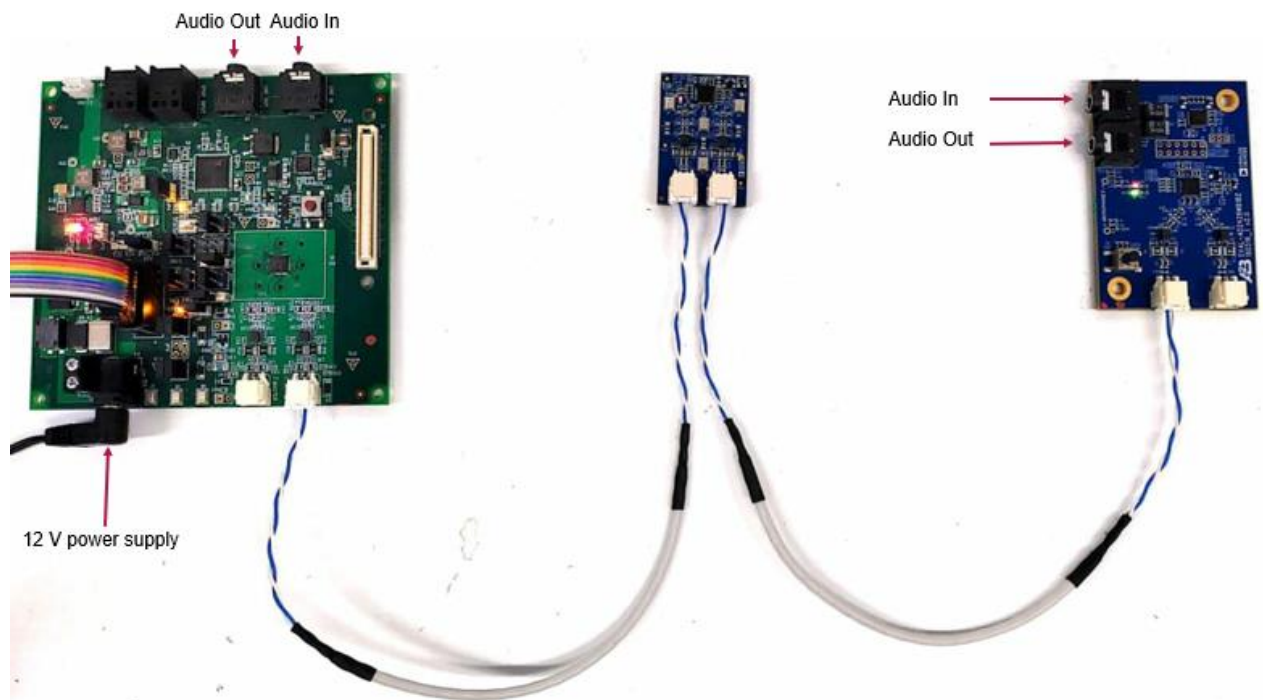

Figure 7: A2B Eval board connections
1. EVAL-AD2428WD1BZ (Master) <-->EVAL-AD2428WC1BZ (Slave0) <--> EVAL-AD2428WB1BZ (Slave1) as shown in Figure 7.
- Attach an USBi cable to the master board connector P1 as shown in Figure 7. Other end of the cable should be connected to the PC.
- Connect separate audio sources (e.g., output from an iPod) to 'Audio Line- in' ports, shown in Figure 7, on AD2428WD1BZ and AD2428WB1BZ boards.
- Connect separate audio sinks (e.g., active speakers) to 'Audio Line-out' ports, shown in Figure 7, on AD2428WD1BZ and AD2428WB1BZ boards.
All steps mentioned in Section 3 and 4 shall be completed before running the demo using PC as a Host. The demo system shall look as shown in Figure 7 . *If using an equivalent Evaluation board but having a different A2B Transceiver part, then update the part-number using A2B Node's drop-down in the schematic to match the Transceiver used.*
3. Make sure that USBi cable is connected to EVAL-AD2428WD1BZ board as shown in Figure 7 and the board is powered on. If prompted for USBi driver, provide \$:\Program Files\Analog Devices\SigmaStudio 4.x\USB drivers\x64 as the install path.